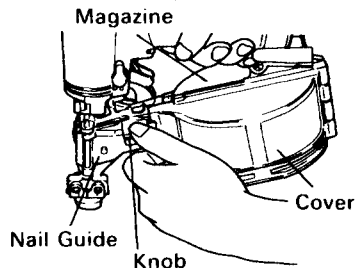

Fig. 6
- (1) Open the nail guide and the cover. Place your finger on the nail guide and the knob. Push the knob downward and open the nail guide to the left (see Fig. 6).